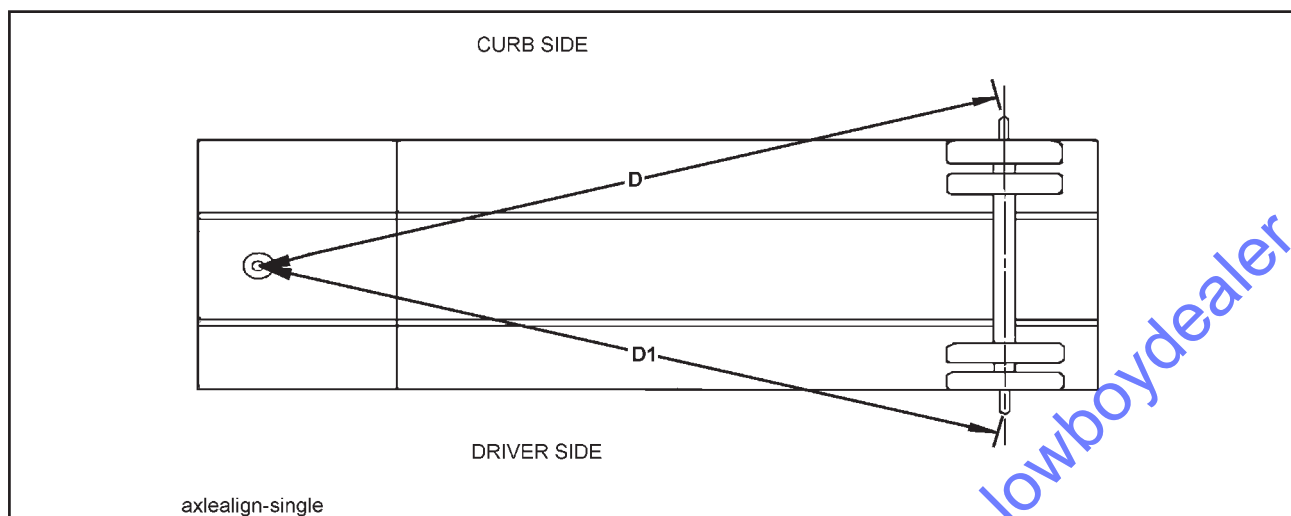

Figure 4-8 Checking Axle Alignment
4. Measure (D) from the plumb bob to the center point on one end of the axle. Record this measurement (**See Figure 4-8**).
5. Measure (D1) to the other end of the axle in the same manner as in **Step 4**. Record this measurement (**See Figure 4-8**).